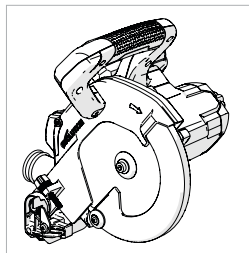

Fig. 5
- The cutting head (In The 'locked down Position as Removed from the Packaging) (**Fig. 5**)